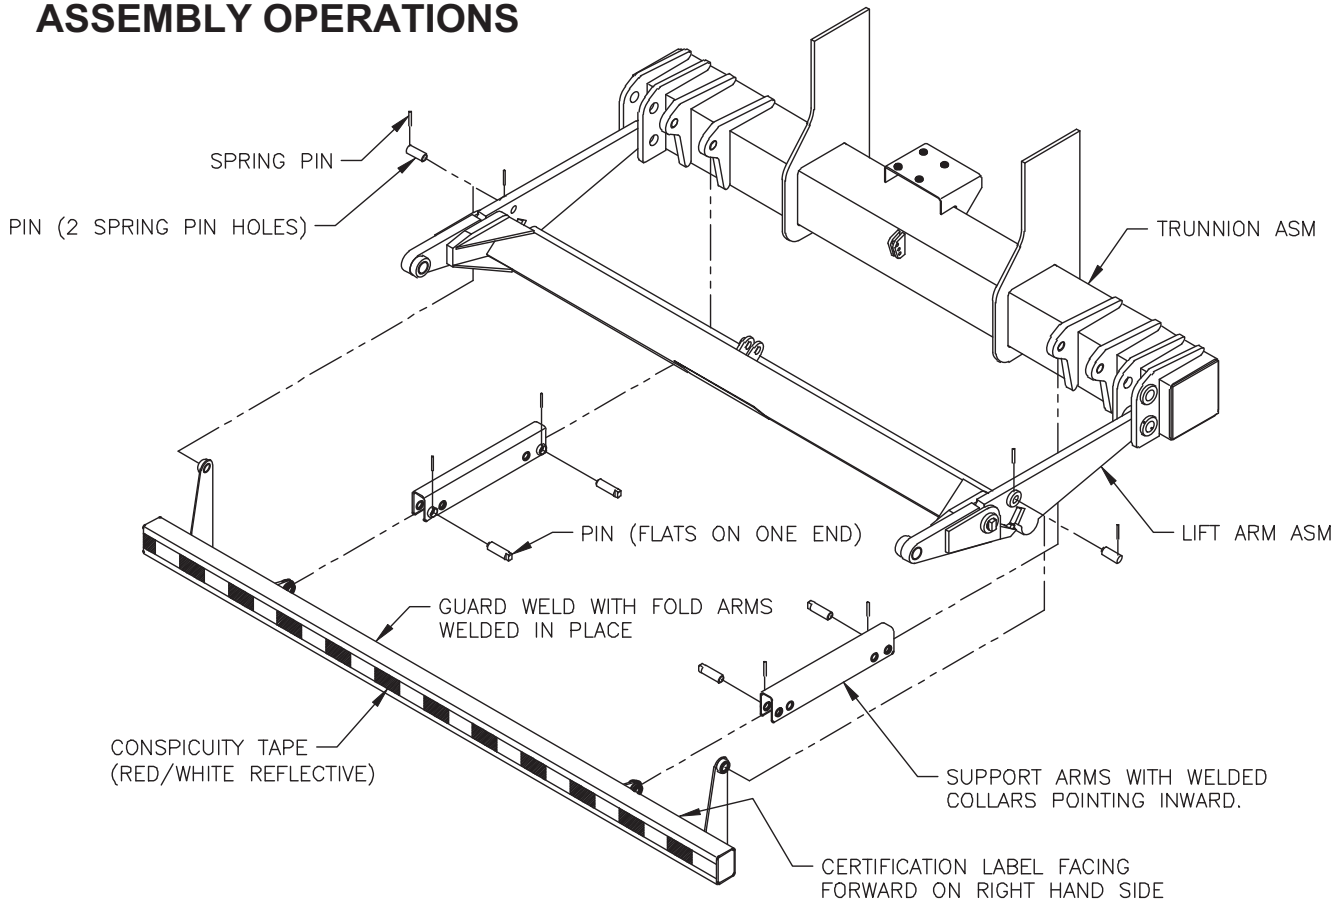

FIG. 3
- STEP 6. Assemble the guard weld/fold arm weld to the lift arm using the pin with the two holes and the spring pins supplied as shown in figure 3.
- STEP 7. Assemble the support arm/collar welds between the guard weld lugs and the trunnion asm lugs using the pins with the flats on the end and the spring pins supplied as shown in figure 3. The collars welded to the support arms should face inward.
STEP 11. After painting is complete, apply the conspicuity tape as shown in figure 3.